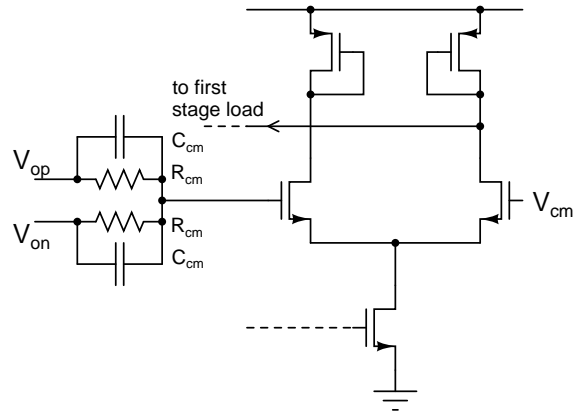

Figure 5: Common mode feedback structure for the two stage opamp
- Fully differential two stage opamp:** Turn the two stage opamp designed in the previous assignment into a fully differential version. Use the circuit in Fig. 5 for common mode feedback. Report (a) through (h) above.